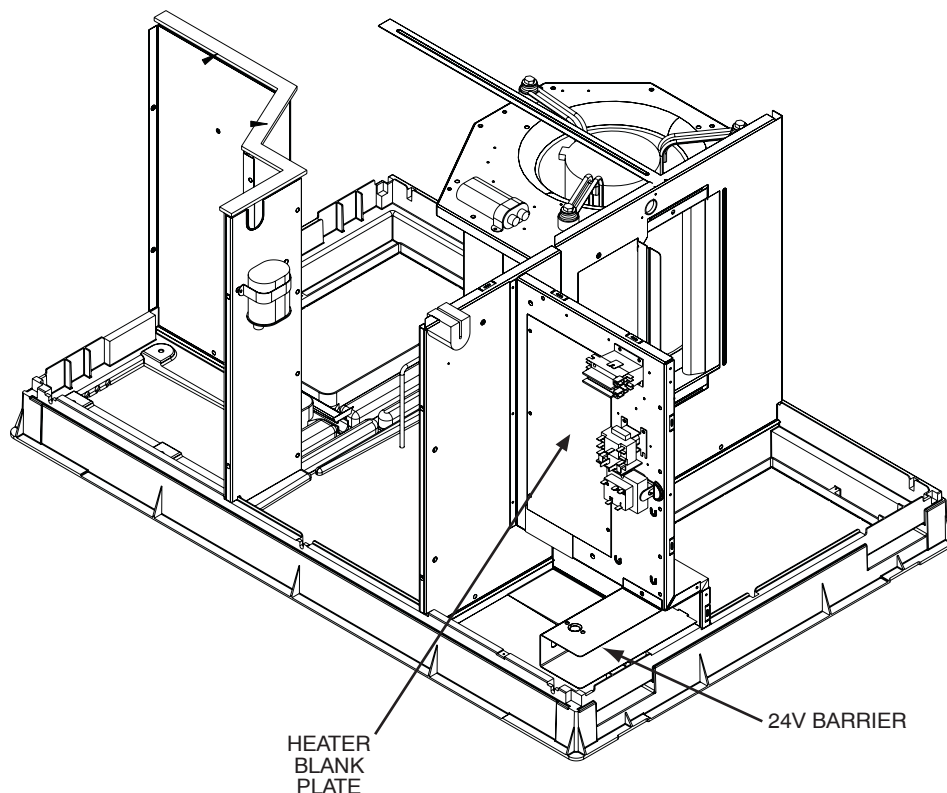

Fig. 3 - Heater Blank Plate Location
5. Locate and remove the heater access cover plate inside unit access panel (See Fig. 3). Save screws.
3. Connect low voltage wires as shown in unit schematic diagrams found on the base unit installation instructions. These connections must be made in the 24v barrier section inside the unit panel (See Fig. 3).
2. Connect low voltage wires as shown in unit schematic diagrams found on base unit installation instructions. These connections must be made in the 24v barrier section inside the unit panel (see Fig. 3).